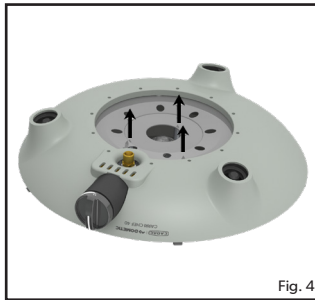
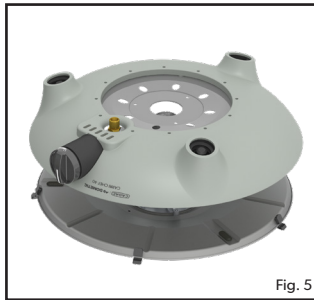
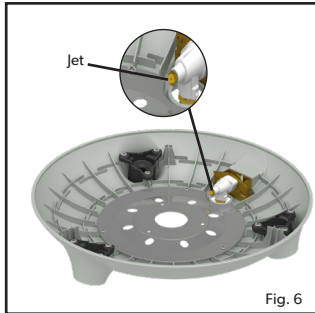

Fig. 4
Fig. 5
Fig. 6
- **To replace the jet:** Remove all loose surfaces as well as the utility tray and legs from the appliance. Turn the burner base over and remove the 3 screws from the bottom cover plate (fig.4) to separate the burner base from the burner assembly (fig. 5). Disconnect the Piezo wire, taking care not to damage it and remove the burner assembly from the body of the burner base to expose the jet (fig. 6). The jet can now be removed using a suitable spanner. Do not use pliers as this can damage the jet, making it unusable or impossible to remove. Screw the new jet into the valve. Do not overtighten as this may damage the unit.